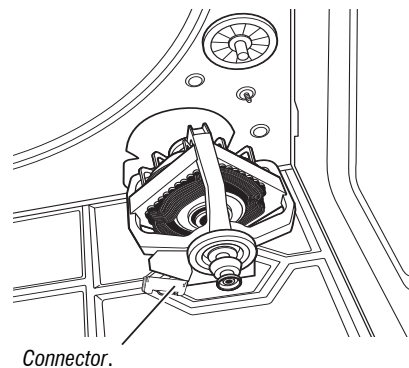

Figure 7 - Remove connector.
9. Check the wiring and continuity from the L2 terminal of the terminal block and the 2M terminal in the white connector from the Motor, see figure 7 on page 19. Also, locate these measurement points by referring to the appropriate wiring diagram (Electric) on page 27.
8. Remove the white connector from the drive motor switch. See figure 7.